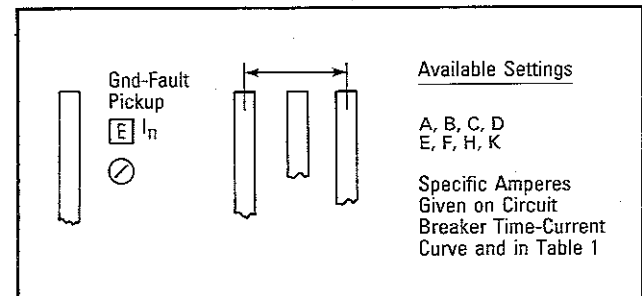

Fig. 4.6 Ground Fault Current Pickup Settings
As illustrated in Fig. 4.6, eight (8) available settings are given in alphabetical notations from A to K. (There is no "G" notation). Specific setting values are a function of the installed rating plug. In general, the pick-up settings range from 0.25 to 1.0 times the ampere rating (I_n) of the installed rating plug up to a maximum pick-up value of 1200 A. However, in the lower ampere rating plug values, an error factor can occur in the Digitrip RMS 500 Trip Unit since it is completely self-powered using only the input from the installed current sensors. Refer to Table 1, Note 2 for additional information.